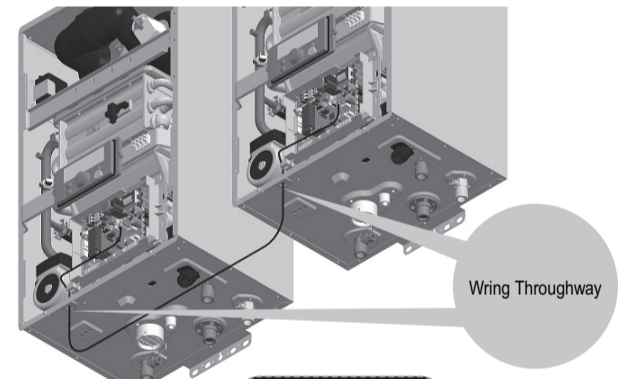

Figure 2
- ③ Pass the Cascade System Cord through the wiring throughway at the bottom of the both units. See Figure 2 for illustration of the throughway location at the bottom of the units.